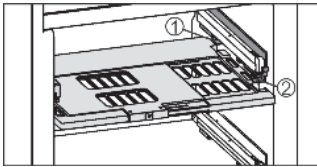

Fig. 9
- ▶ To insert the humidity control plate: Insert the guide pieces of the plate into the rear retainer Fig. 9 (1) from below, then snap the plate into the retainer Fig. 9 (2) in the front.